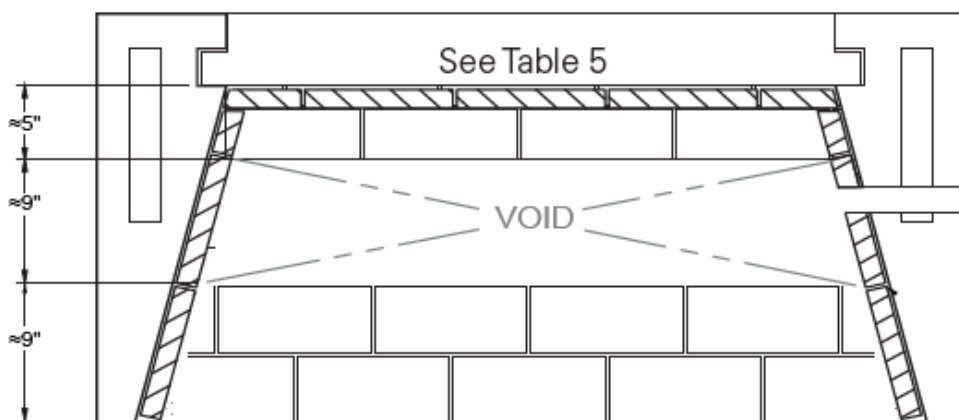

FIGURE 58
- 3) The burner cavity must have a height of 2-1/2", a depth of 8-3/4", and the length shall extend the entire length of firebox. (**Table 5; Figure 58 & 59**)